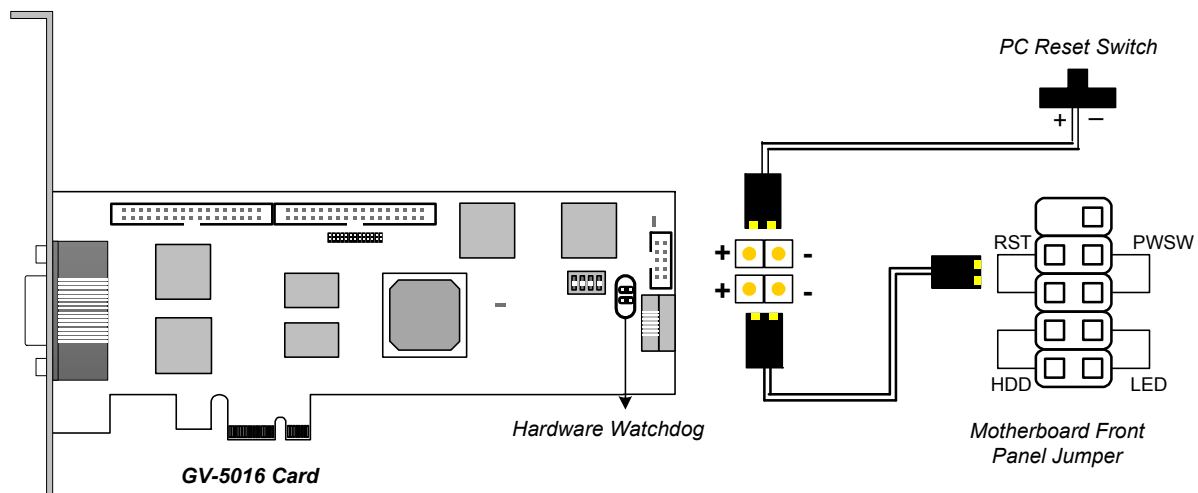

Figure 1-11
- Connect the supplied Hardware Watchdog Jump Wire (Figure 1-11).
- **Hardware Watchdog Connection:** Connect the supplied Hardware Watchdog Jump Wire to the Master Card only (Figure 1-11).